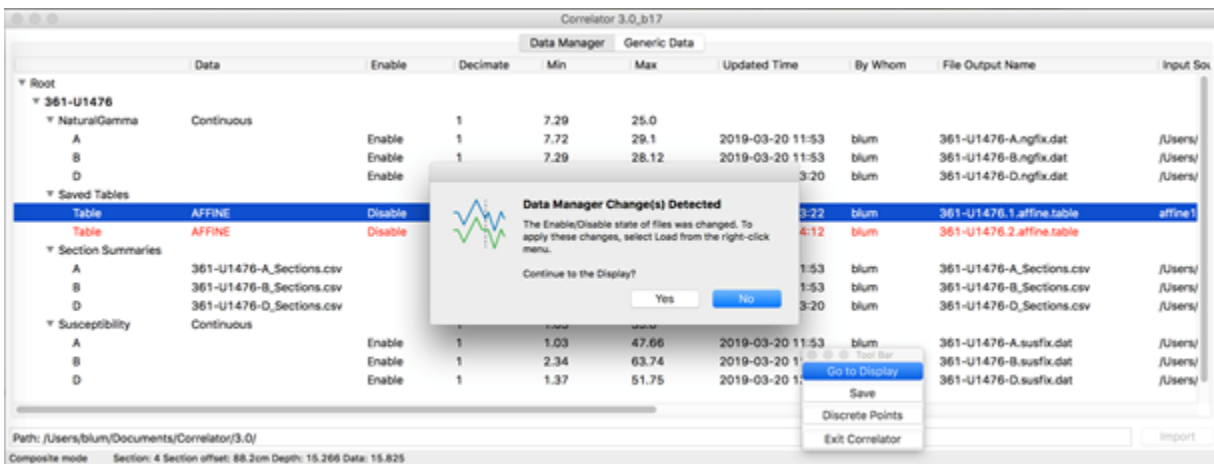

Figure 3-41. Prompt when user tries to switch to Display without first re-loading the data.
- If you try to switch directly back to display, you get the prompt in Fig. 3-41).